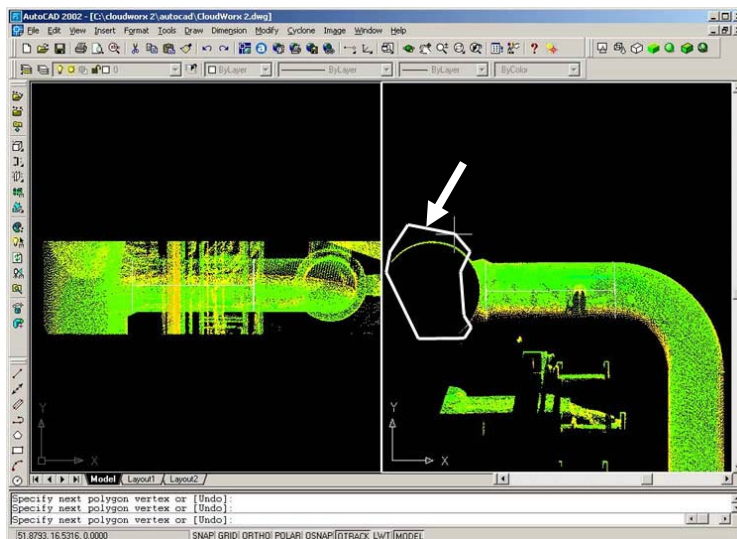

Figure 9.
5. Define the polygonal fence’s shape by selecting all of the points that will be used in the fit. See *Figure 9*.